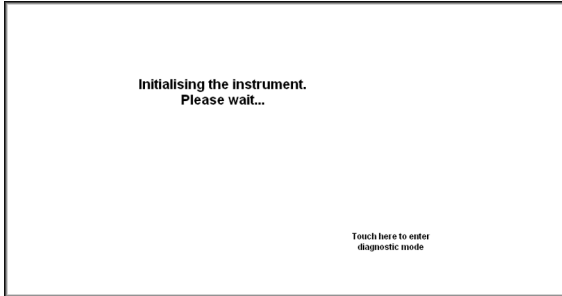

Fig. 7
- After switching it on the instrument will take a few minutes to initialize (see opposite - Fig. 7).
If, during initialization, 'Touch here ...' is touched (refer Fig. 7) and subsequently the supervisor password is entered, the **SYSTEM DIAGNOSTICS** menu (Fig. 9) opens up, giving access to standard instrument settings.
- Initialization starts again from the screen shown in Fig. 7.